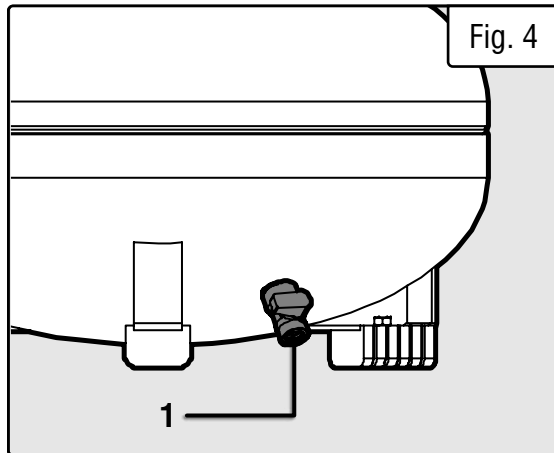

Fig. 4
3. Fully open the drain valve (Fig. 4 - 1).